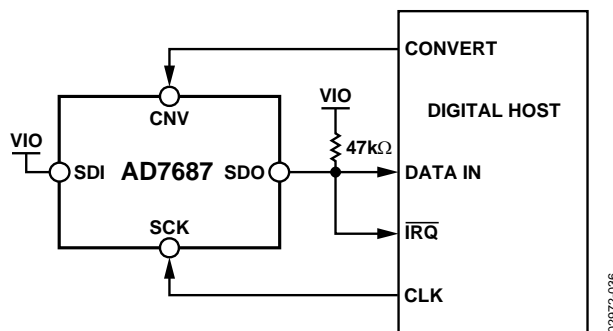
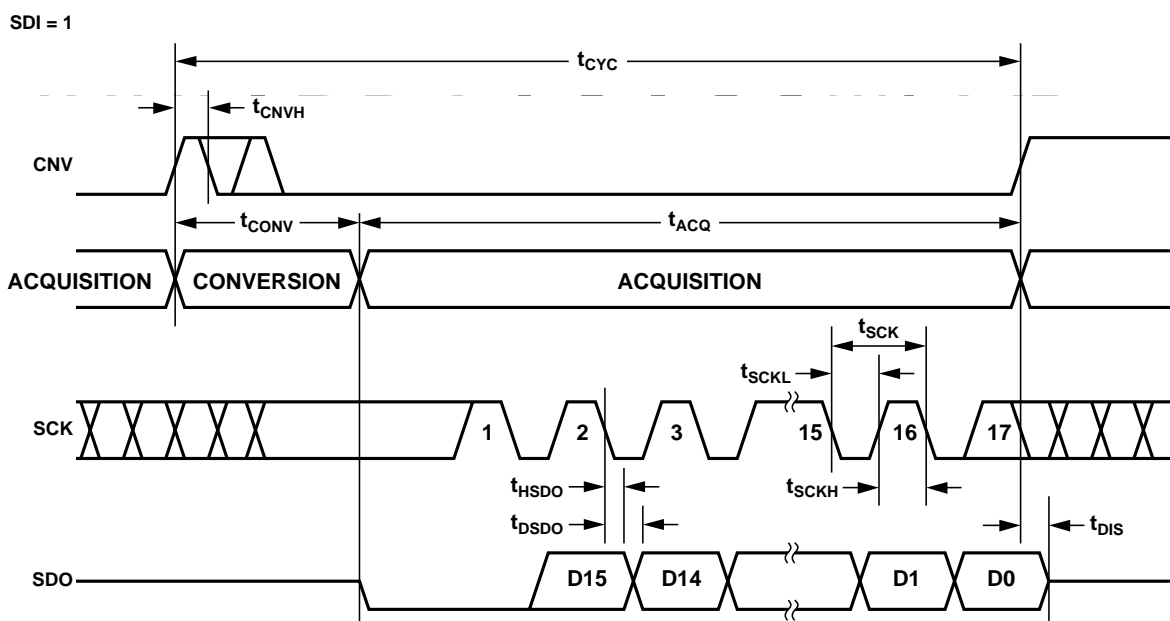
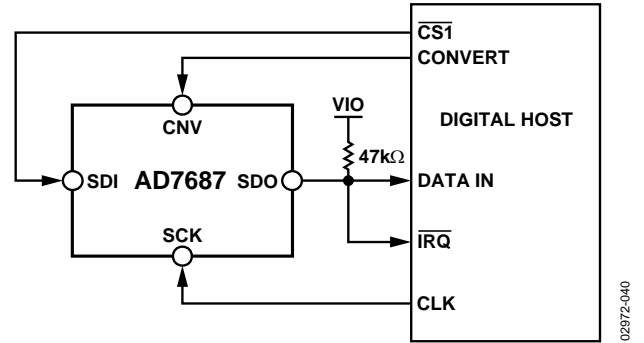
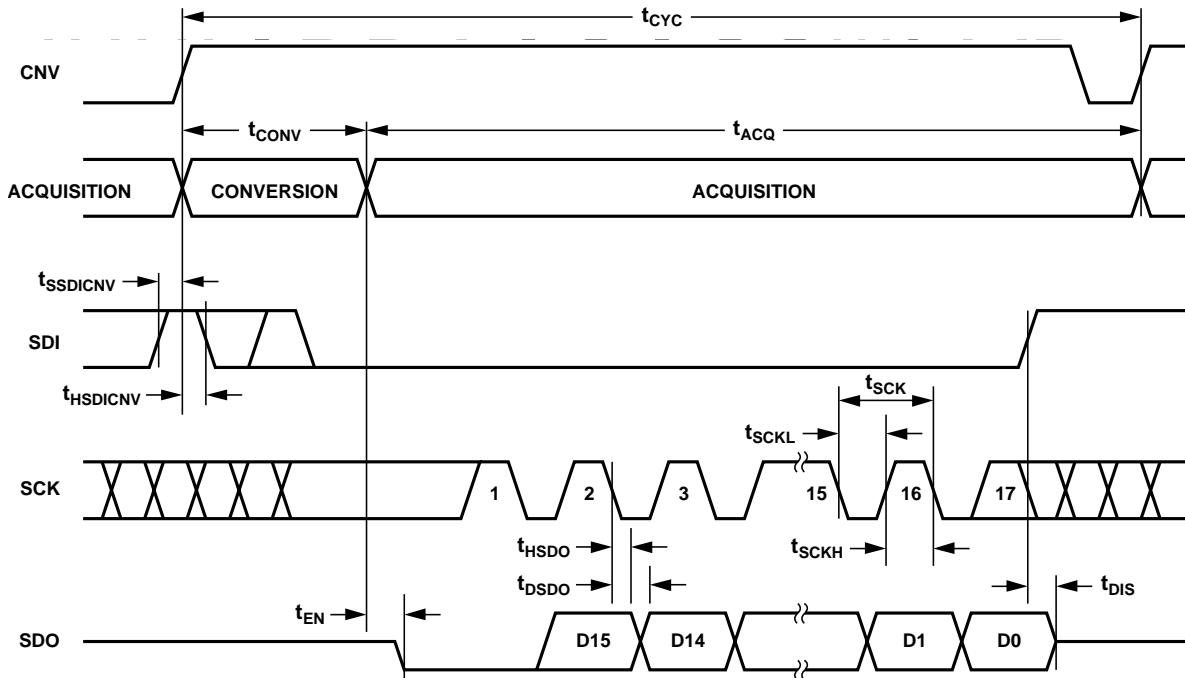

Figure 37. $\overline{\text{CS}}$ Mode 3-Wire with BUSY Indicator Connection Diagram (SDI High)
Figure 38. $\overline{\text{CS}}$ Mode 3-Wire with BUSY Indicator Serial Interface Timing (SDI High)
Figure 41. $\overline{\text{CS}}$ Mode 4-Wire with BUSY Indicator Connection Diagram
Figure 42. $\overline{\text{CS}}$ Mode 4-Wire with BUSY Indicator Serial Interface Timing
- In the \overline{CS} mode, if CNV or SDI is low when the ADC conversion ends (Figure 38 and Figure 42).
The connection diagram is shown in Figure 37 and the corresponding timing is given in Figure 38.
The connection diagram is shown in Figure 41 and the corresponding timing is given in Figure 42.